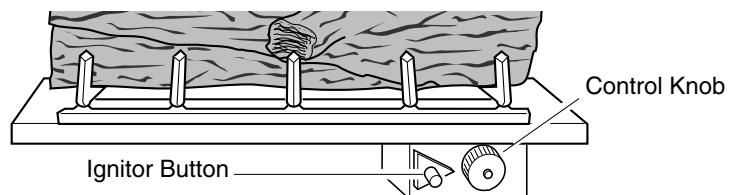

Figure 28 - Control Knob and Ignitor Button Location
4. Wait five (5) minutes to clear out any gas. Then smell for gas, including near the floor. If you smell gas, **STOP!** Follow "B" in the safety information above. If you don't smell gas, go to the next step.
5. Turn control knob counterclockwise  to the PILOT position. Press in control knob for five (5) seconds (see Figure 28, above).